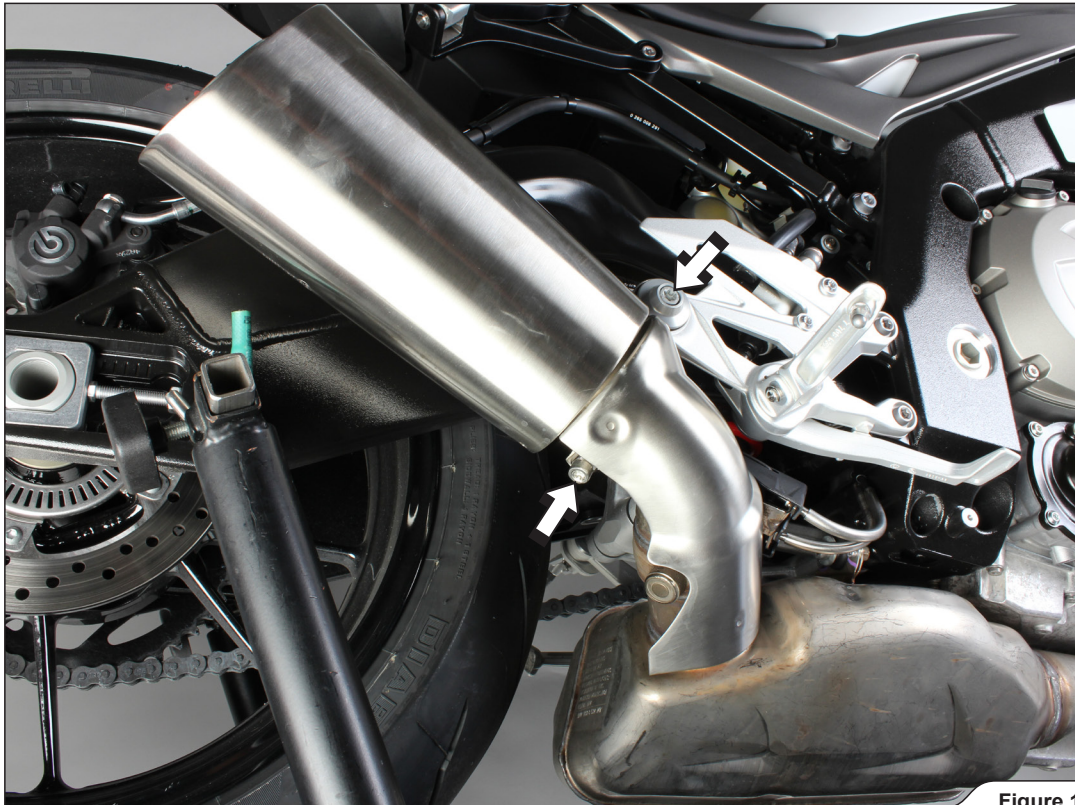

Figure 1
2. Loosen the marked clamp, unscrew the muffler's bracket bolt and remove the muffler with heat shield off the motorcycle (Figure 1).